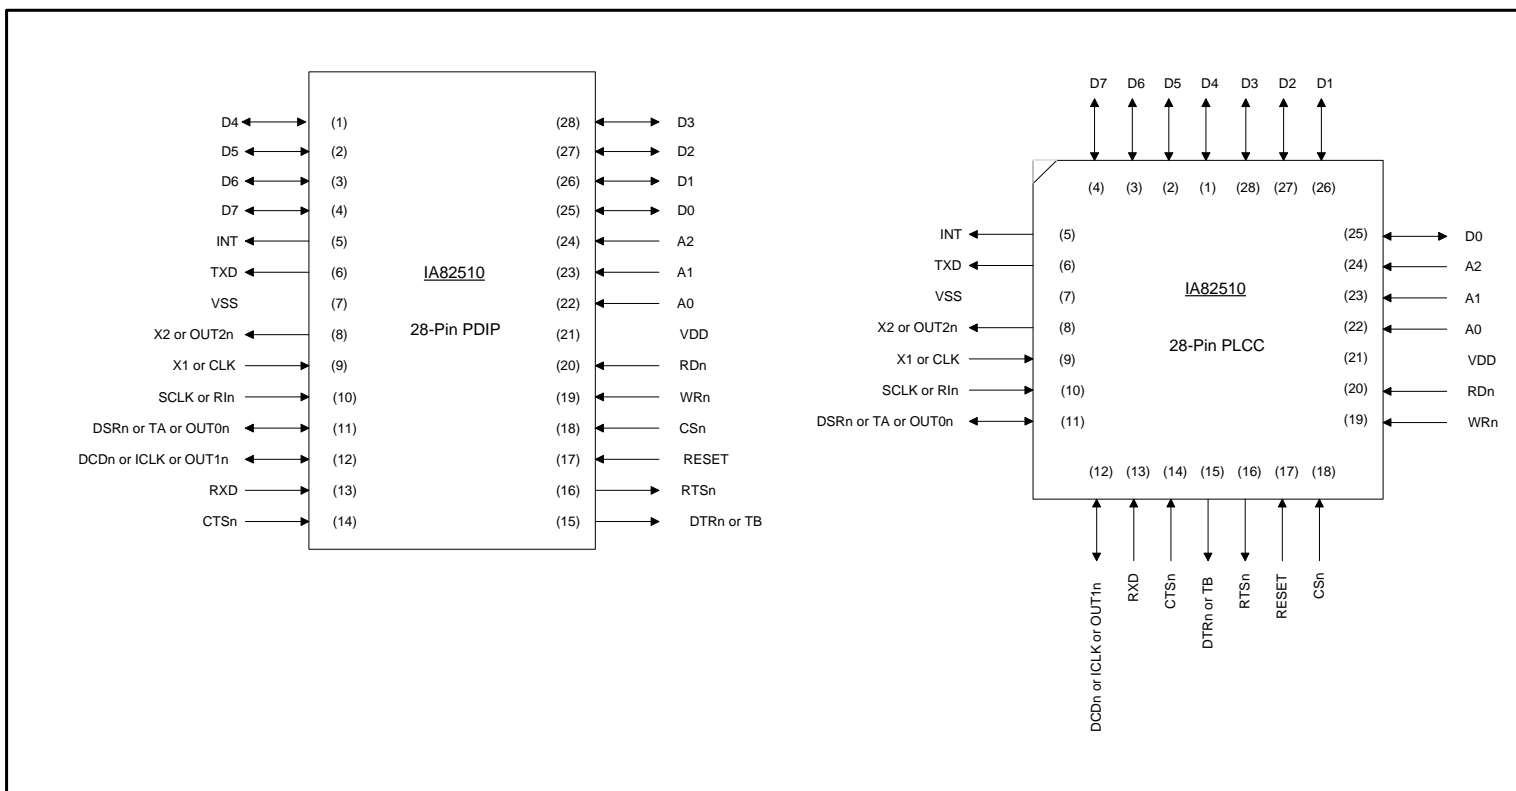

Figure 1. Package Pinout
- Packaging options available: 28-Pin Plastic (PDIP) or, 28-Lead Plastic Leaded Chip Carrier (PLCC), Leaded or RoHS packages available (see Figure 1, Package Pinout)